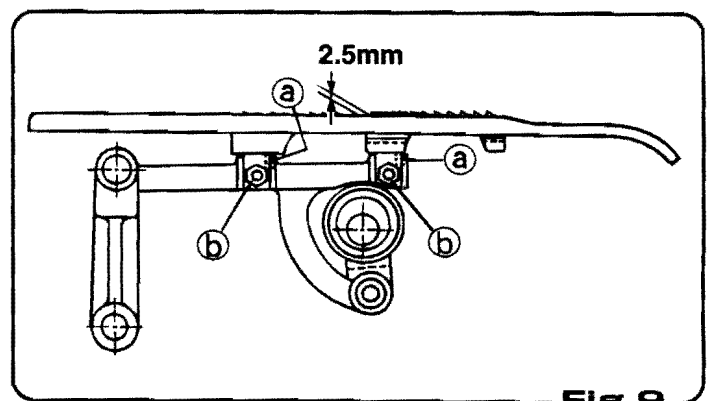

Fig.9
- Adjust the height of the feed dog so that it protrudes 2.5mm from the upper surface of the throat plate when the feed dog has risen to the highest position, as shown in (Fig.9). If the feed dog is higher than this, stitch will not chain satisfactorily, and if it is lower than this, the stitch width will be too small. Slacken nut (b) with a box spanner to adjust the height of the Feed Dog. It is important to adjust the height with set screw (a) to ensure that the pressure from the Pressure Foot should not force it back down. Tighten nut (b) when the adjustment is correct.
- 送り金(前)の高さは、送り金がか最も上がったとき、針板上面から2.5mm出るように調整します。(Fig.9)